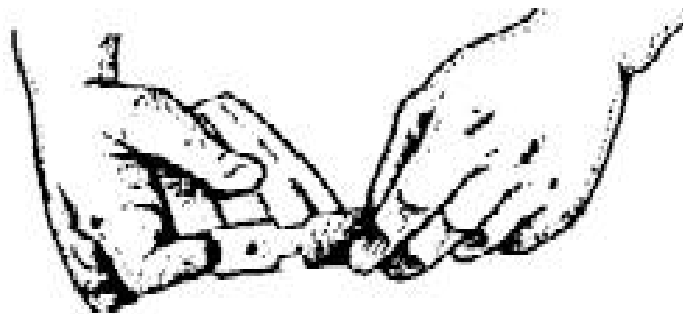

Figure E-41. Removing the base of the magazine.
- b. Remove the base (figure E-41).